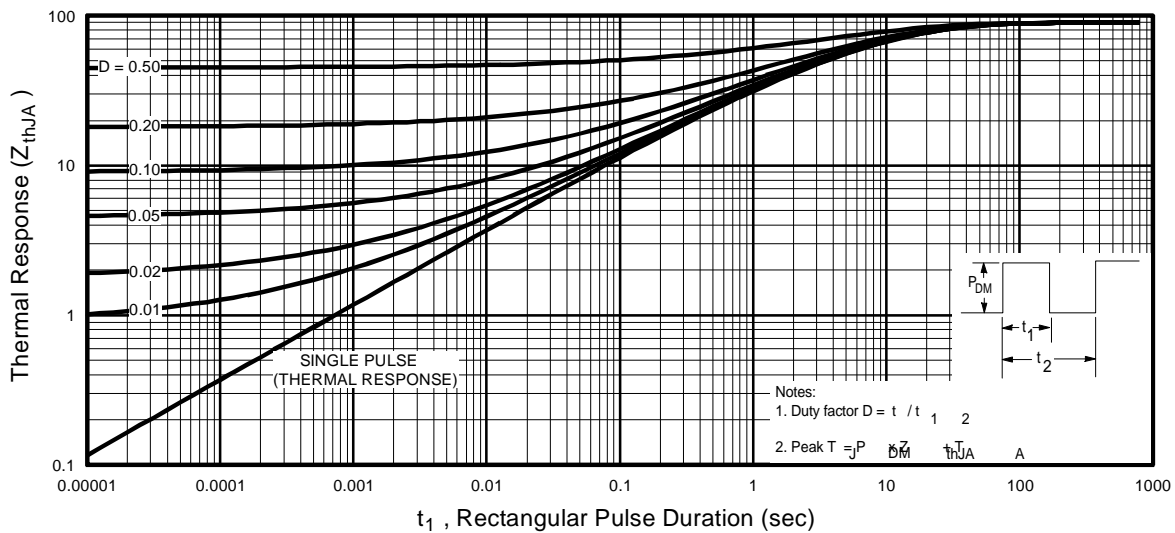

Fig 23. Maximum Effective Transient Thermal Impedance, Junction-to-Ambient
① Repetitive rating; pulse width limited by max. junction temperature. (See fig. 23)
② N-Channel I_{SD} ≤ 2.4A, di/dt ≤ 73A/μs, V_{DD} ≤ V_{(BR)DSS}, T_J ≤ 150°C